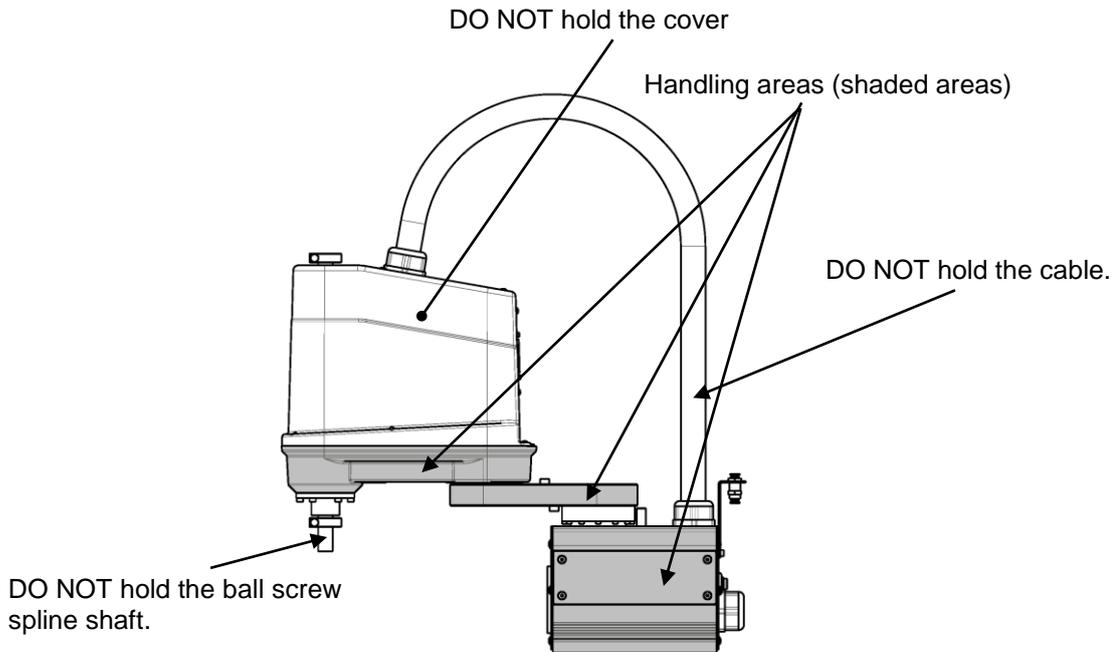

Fig. 3.6 Robot Handling Locations (KHL-300 and KHL-400)
- When lifting up the robot by workers, hold the locations (shaded areas) by hands as shown in Fig. 3.6. Holding the arm 2 cover, the cable and the ball screw spline shaft will apply excess force, possibly causing failure.
- The work should be performed by two (2) or more workers.